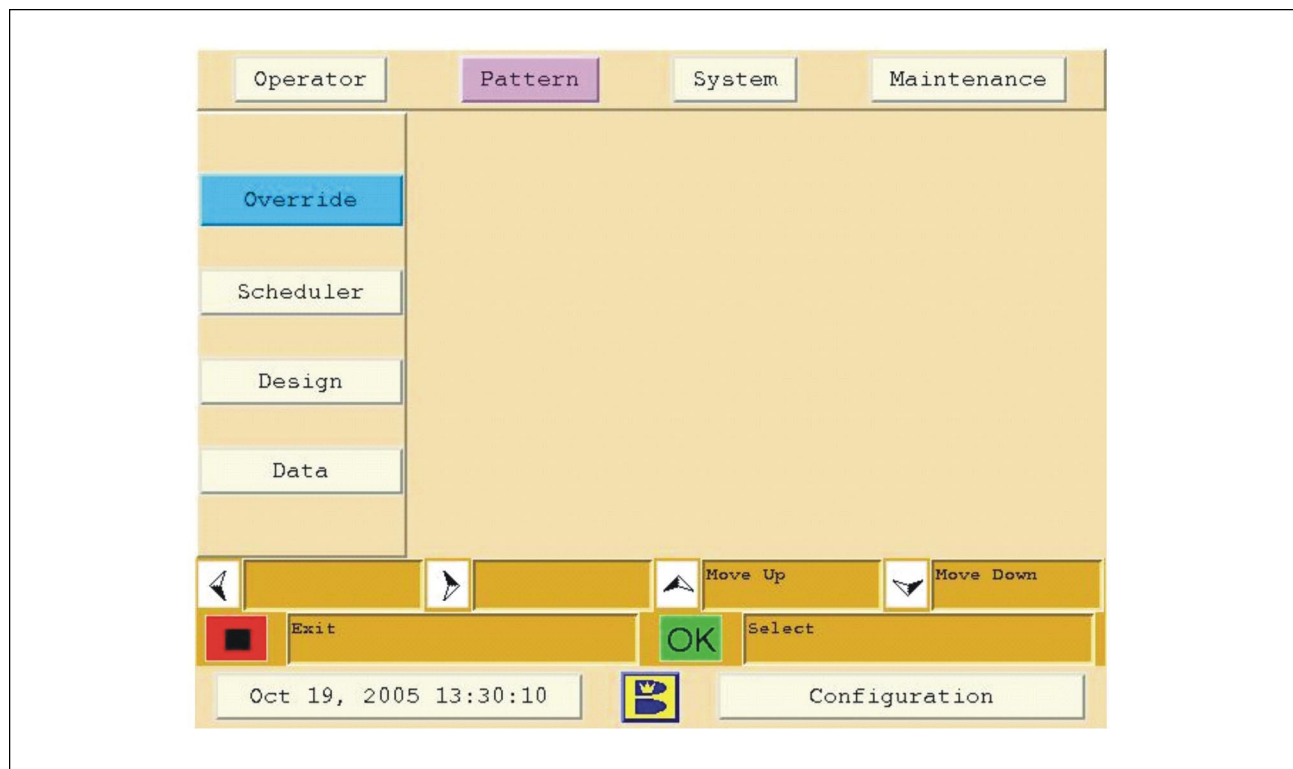

Figure 4-4. Pattern Screen
1. Press the "Exit" button until you reach the main screen for that section – Operator, Pattern, System, or Maintenance (the active area of the screen will be blank and only the left menu bar will be visible). Refer to Figure 4-4.
The pattern screen lets you select, change, design, or override a lane conditioning pattern. The Authority22 comes preprogrammed with conditioning patterns. You may use these patterns as your own, or use them as templates to create customized patterns – just find the pattern that’s closest to what you want and then adjust the zone lengths and oil volumes. You can return to the original default patterns at any time. Refer to Figure 4-4.